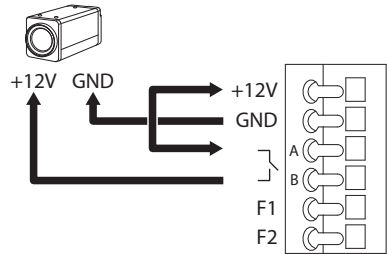

Fig. 95 CN7. ONVIF mode
- Disconnect the telemetry cable from the camera and connect the camera power supply (Fig. 95 CN7. ONVIF mode, page 46).